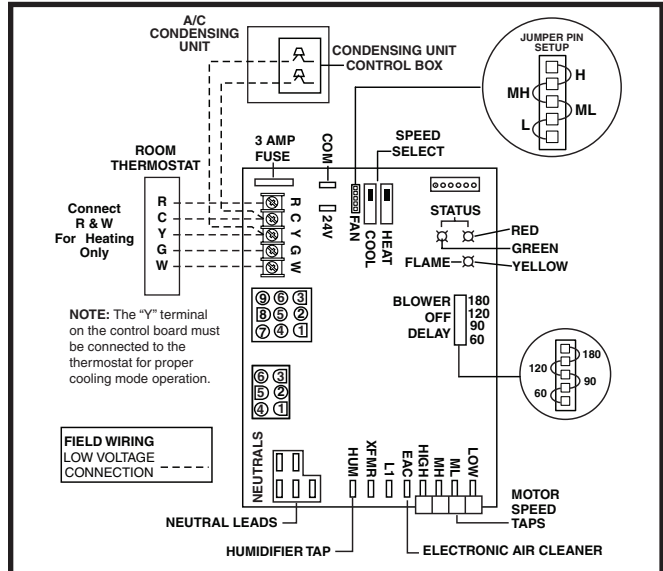
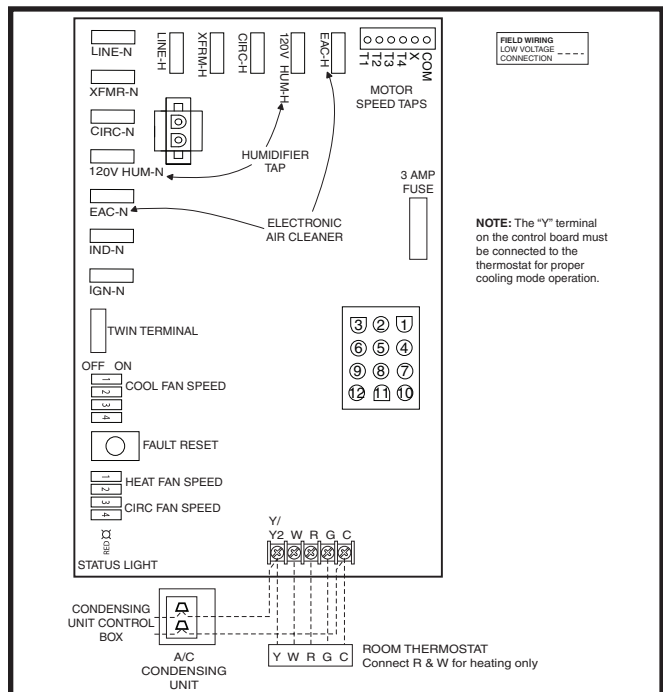

Figure 27. Nordyne/UTEC Low Voltage Field, Four-wire Heating/Cooling Applications
Figure 28. Emerson Low Voltage Field, Four-wire Heating/Cooling Applications
- The thermostat must be installed according to the instructions supplied by the thermostat manufacturer. Low voltage connections (24 VAC) from the thermostat are wired to the terminal strip on the integrated control in the furnace. **Figure 27** contains the proper connections for heating only (two-wire) and heating/cooling (four-wire) applications. Recommended minimum wire gauge for thermostat wiring is shown in **Table 5 (page 24)**.
- √ Verify the jumper on the Nordyne/UTEC board or dipswitch on the Emerson board (for fan speed) on the control board. See Figure 27 \(page 25\) and Figure 28 \(page 25\).